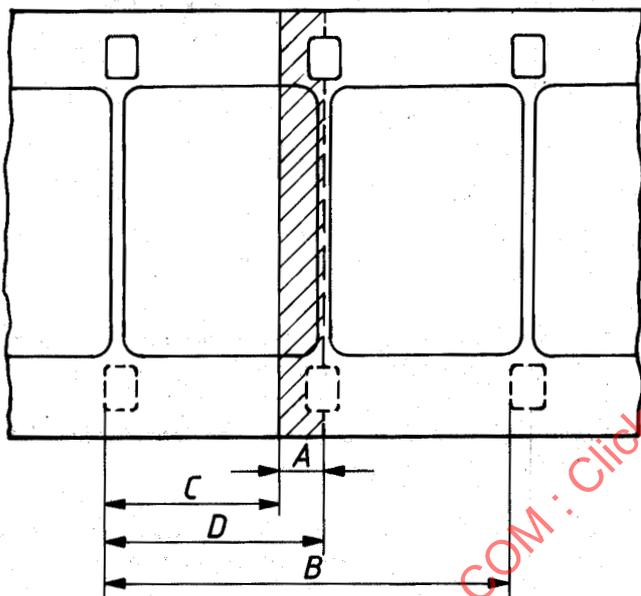

Figure 1 — Splices on 16 mm film laboratory type
2.2 The dimensions of cemented or welded overlap splices for 16 mm motion-picture films shall be as shown in figures 1, 2 and 5 and given in tables 1 and 5.